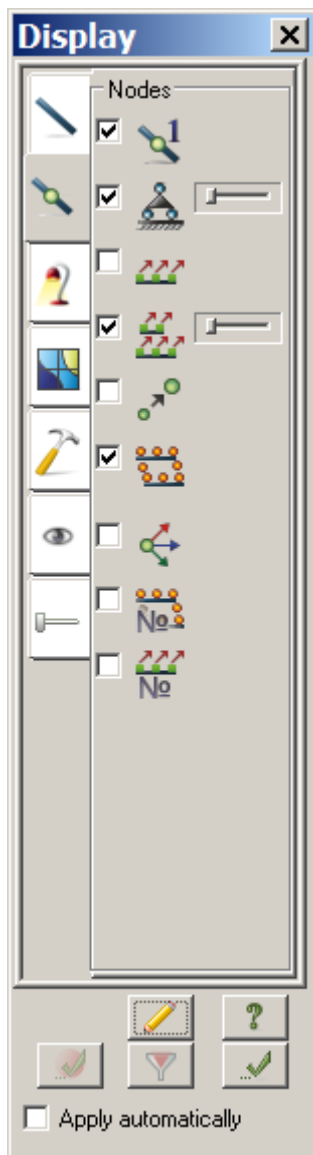

Figure 9.5 Display dialog box
- ⇒ In the **Display** dialog box (see Fig.9.5), select the **Node numbers** check box on the **Nodes** tab.